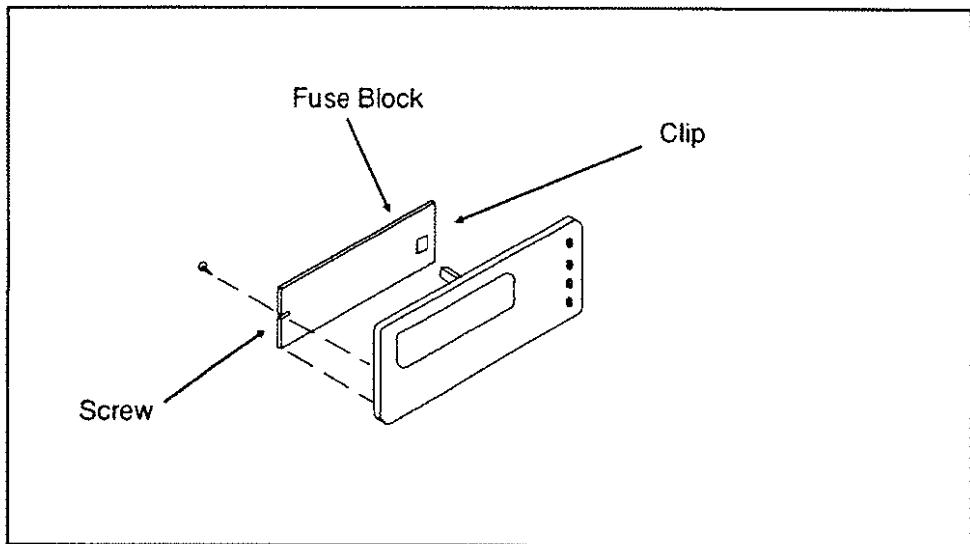

Figure 2-3.
12. Loosen the screw that holds the fuse block to the fuse holder cover and remove the fuse block. See Figure 2-3.